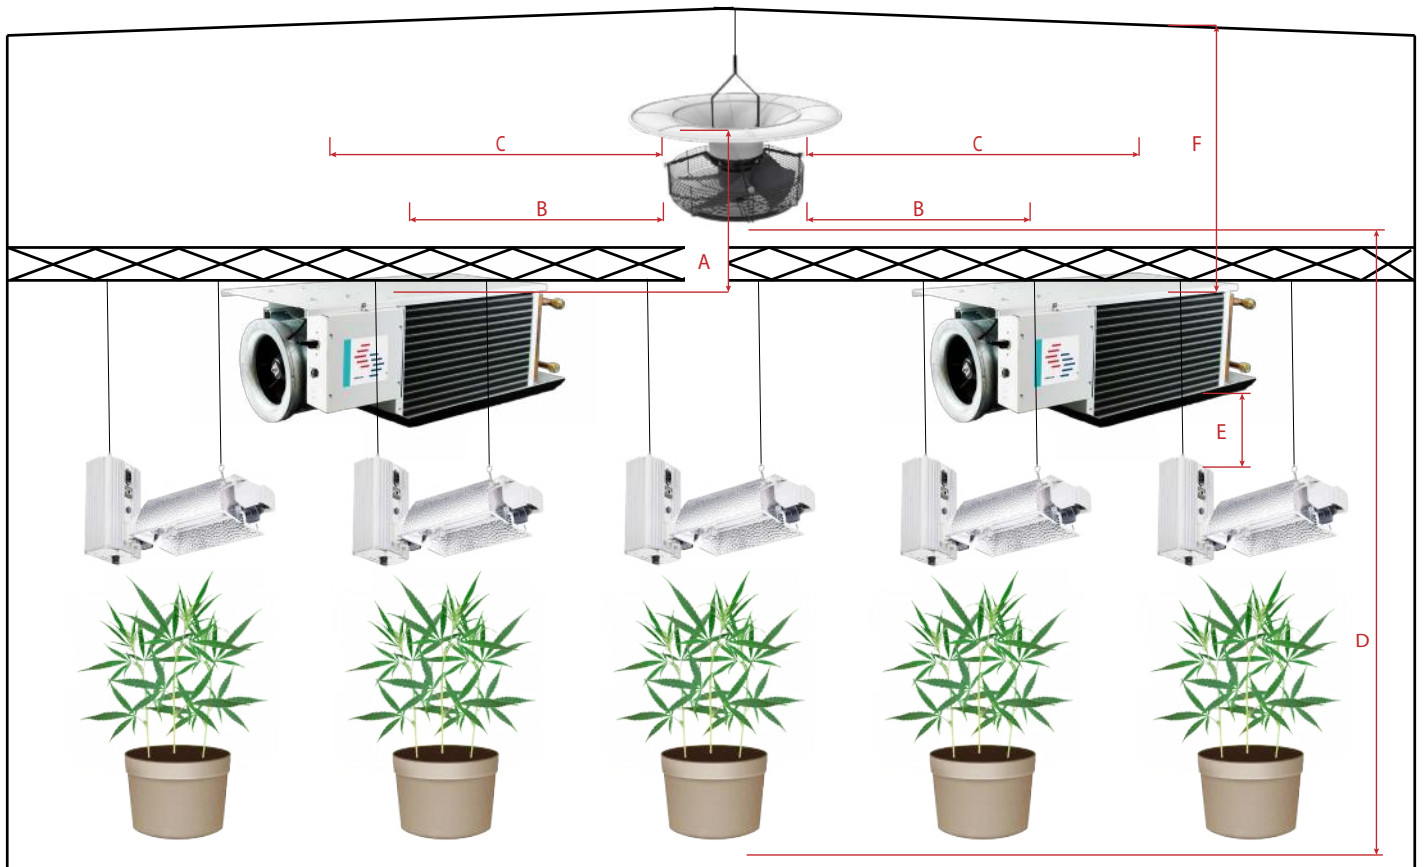

FIGURE 4: Mounting Dimensions
3. Lights shown in Figure 4 are used for example purposes only; lighting method is immaterial to the use of the Destrat Ventilator.